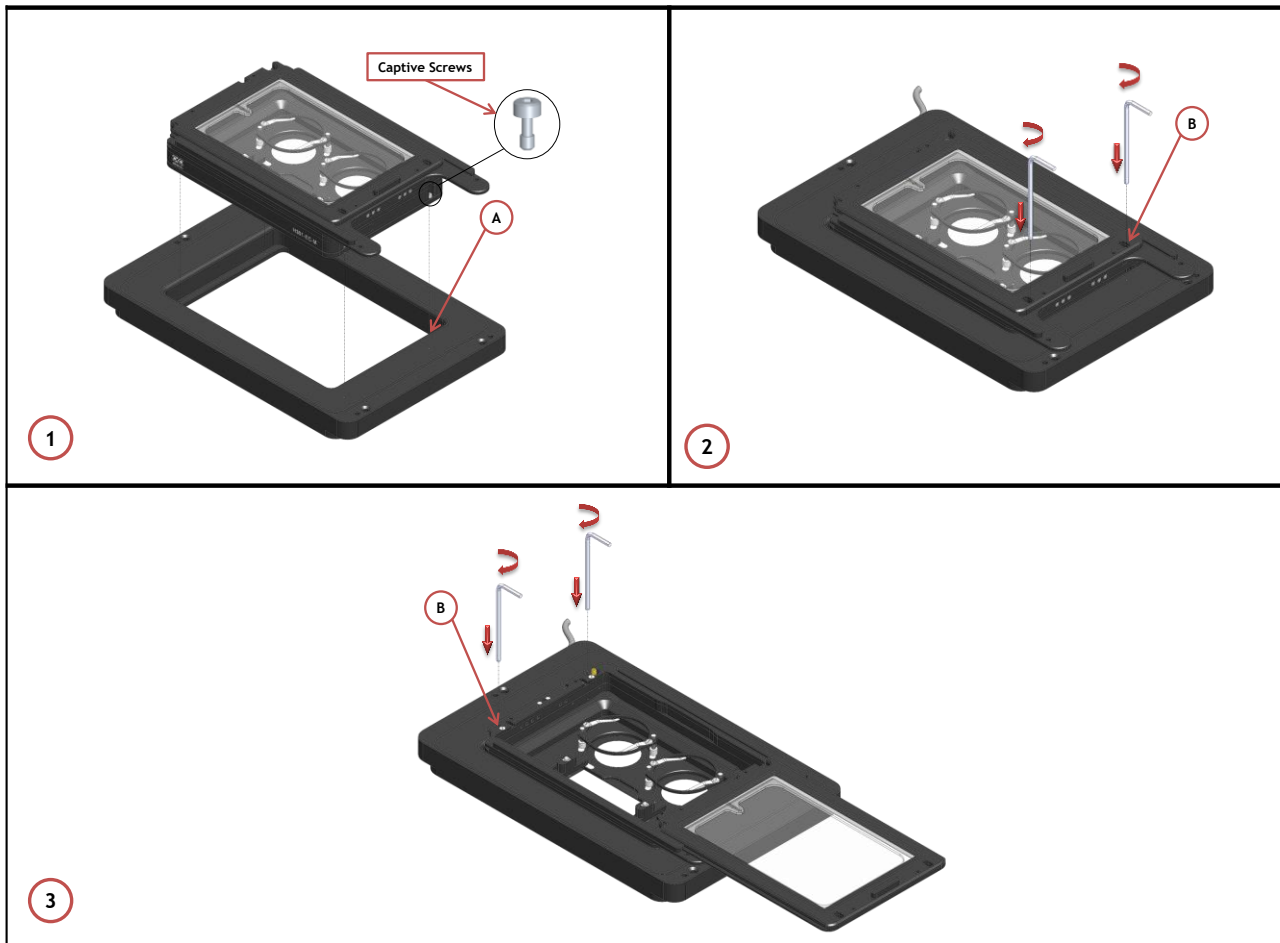

Figure 23. Connection of the Chamber with Z Piezo Stage
Follow the steps shown in the images of Figure 23 and listed below in order to correctly connect the chamber with Z piezo stage.
1. Place the chamber on the stage and tighten 2 captive screws (See Image 2 of Figure 23). Captive screws housings are indicated with letter B in Image 2 of Figure 23.
2. Use a 1.5mm metric Allen Wrench to tighten one of the two captive screws (B in Image 3) while keeping the chamber sliding lid closed (See Figure 23 Image 3)